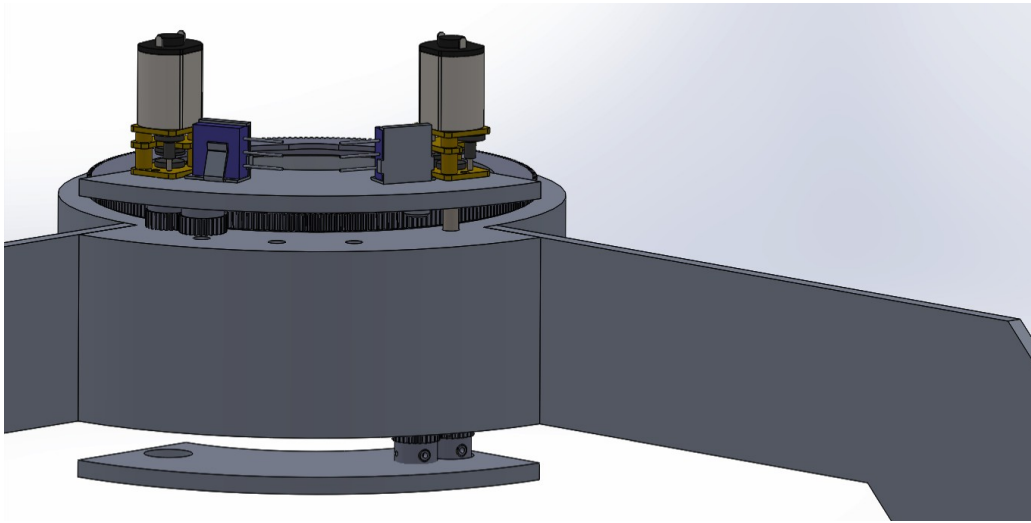
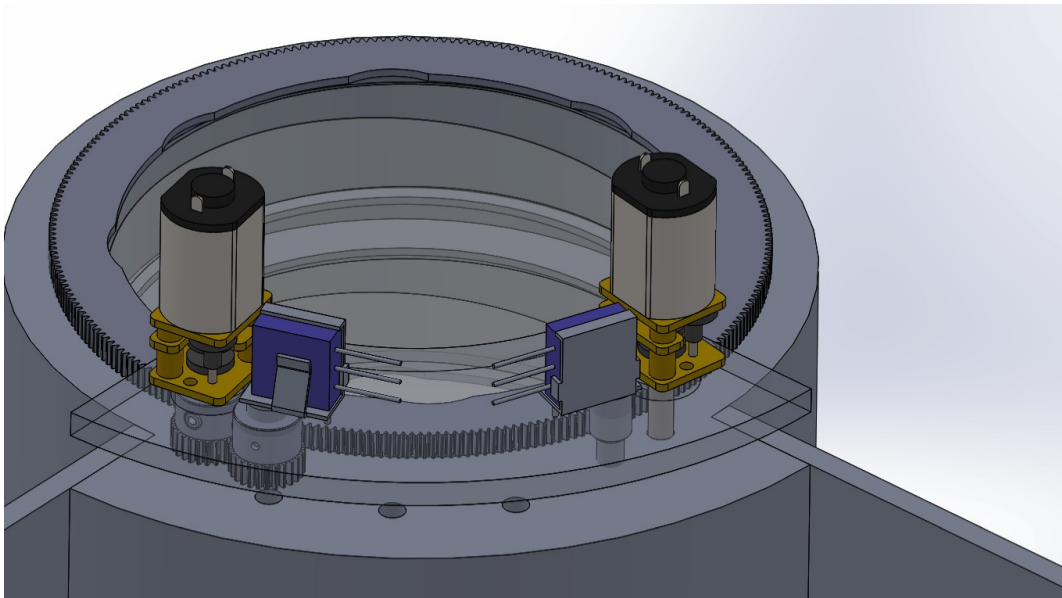

Figure 6 Multi turn pot feedback
Figure 7 20 turn pot feed back.
2. A multi turn pot that would produce an analog output proportional to the rotation angle. The multi turn pot would allow for two full rotations of the prisms, Figure 6 and Figure 7. The motors and pots are all on one side of the ADC to allow room for the motion of the velocity reference cell.